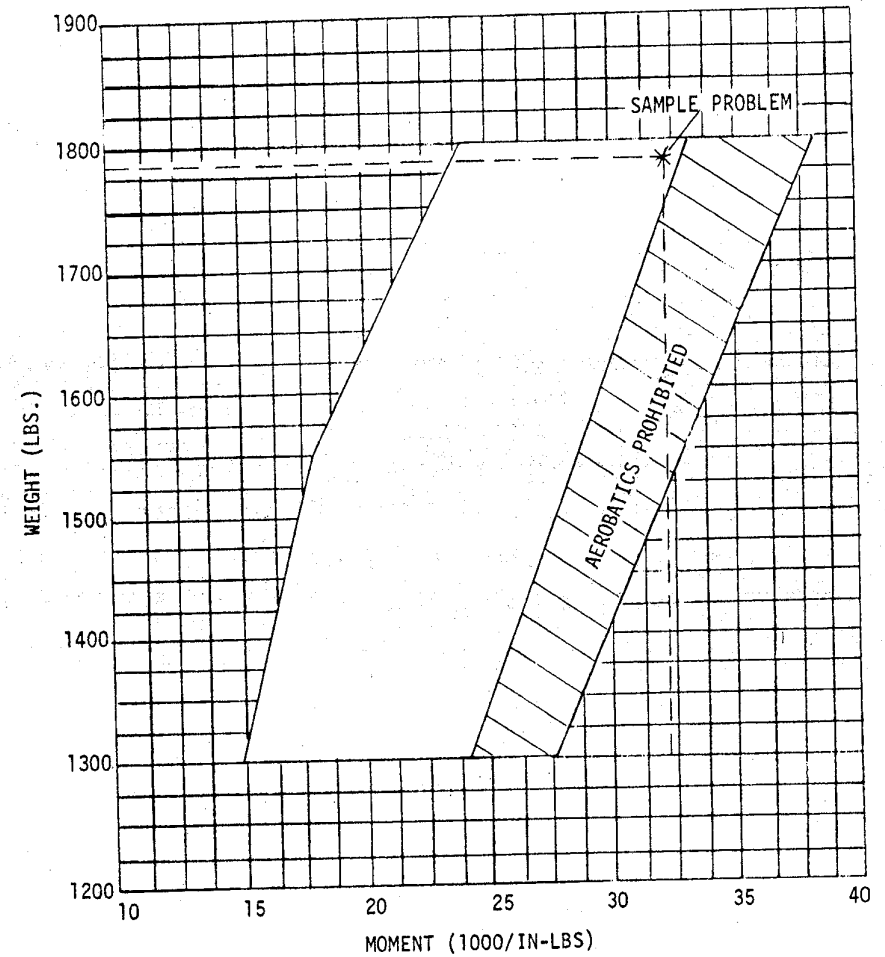

FIGURE 5-3 DECATHLON AND DECATHLON CS
5. Using the Flight Envelope, Figures 5-3 or 5-4, for the model Decathlon used, determine that the gross takeoff weight and moment are within limits.